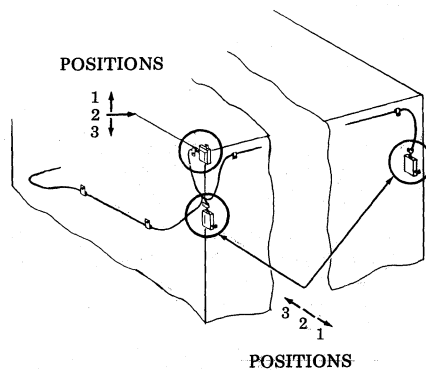

Fig. 4
2.04 There are three interlock switches on this cabinet. Each switch has a three-position activator (Fig. 4). Check for continuity at connector terminals 6 to 7 when the activators are lifted to their 1 position (maintenance) and held down (audible click) in their 3 position. No continuity should be observed in their 2 position (Fig. 8). If cable continuity fails, check individual interlocks.